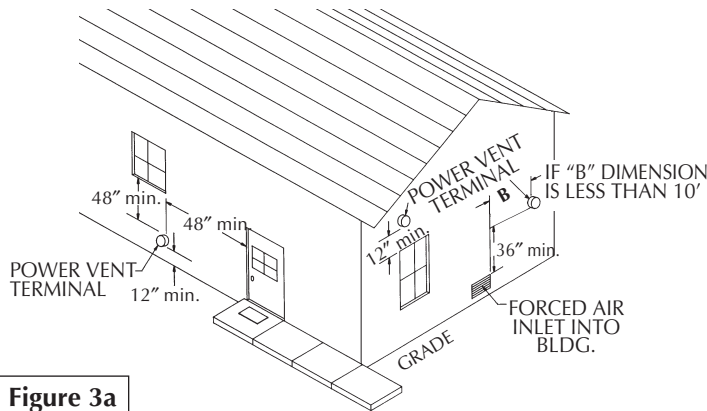

Figure 3a
- The Power Vent outlet terminal shall terminate at least 36" above any forced air inlet into the building located within 10 feet. Figure 3a.
- The Power Vent outlet terminal shall terminate at least 4 feet below, 4 feet horizontally from or 1 foot above any door, window or gravity air inlet into the building. Figure 3a.